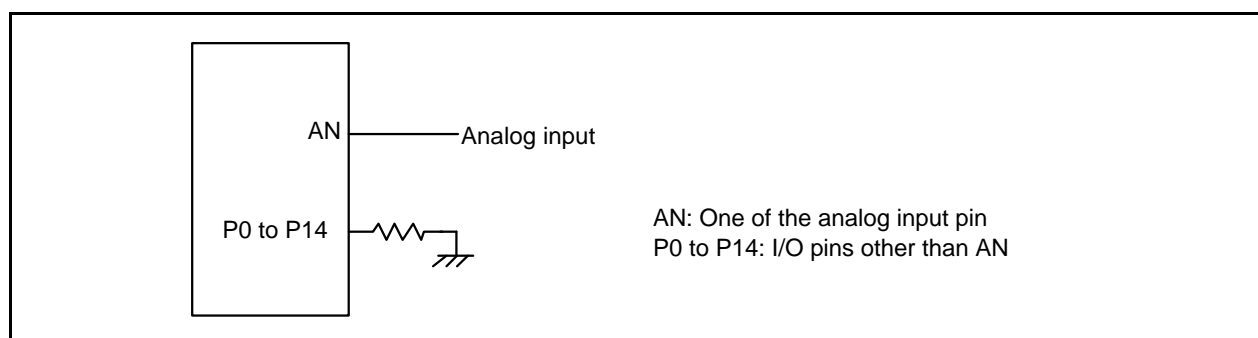

Figure 5.2 A/D Accuracy Measure Circuit
2. Flash memory rewrite disabled. Except for the analog input pin, set the pins to be measured as input ports and connect them to V_{SS} . See Figure 5.2 "A/D Accuracy Measure Circuit".
- Flash memory rewrite disabled. Except for the analog input pin, set the pins to be measured as input ports and connect them to V_{SS} . See Figure 5.2 "A/D Accuracy Measure Circuit".